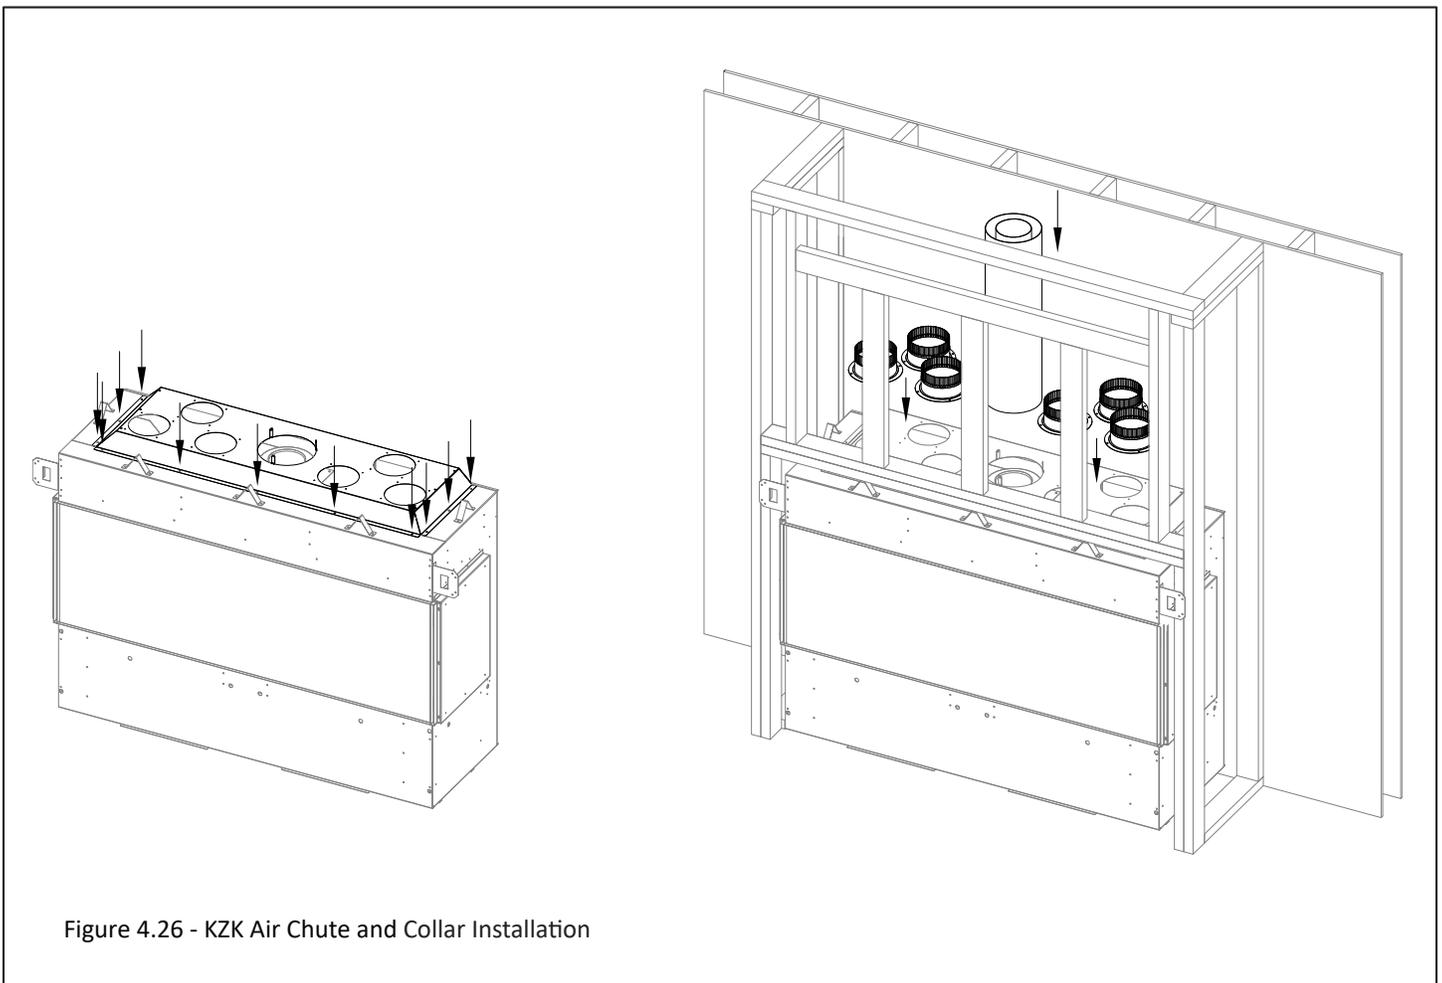

Figure 4.26 - KZK Air Chute and Collar Installation
Important: You must order a (1) G6020-ACH air chute with your KZK-056 or KZK-1510 and KZK-610. The G6020-ACH air chute attaches to the fireplace. See Figure 4.26.